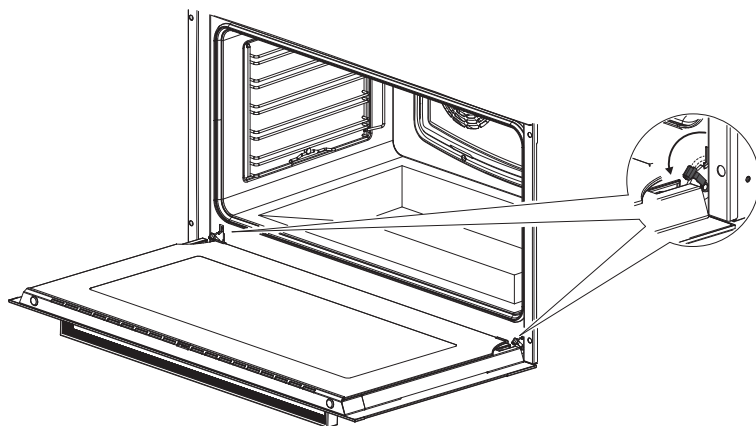

Fig. 7
- Lift the two levers shown in figure 7.